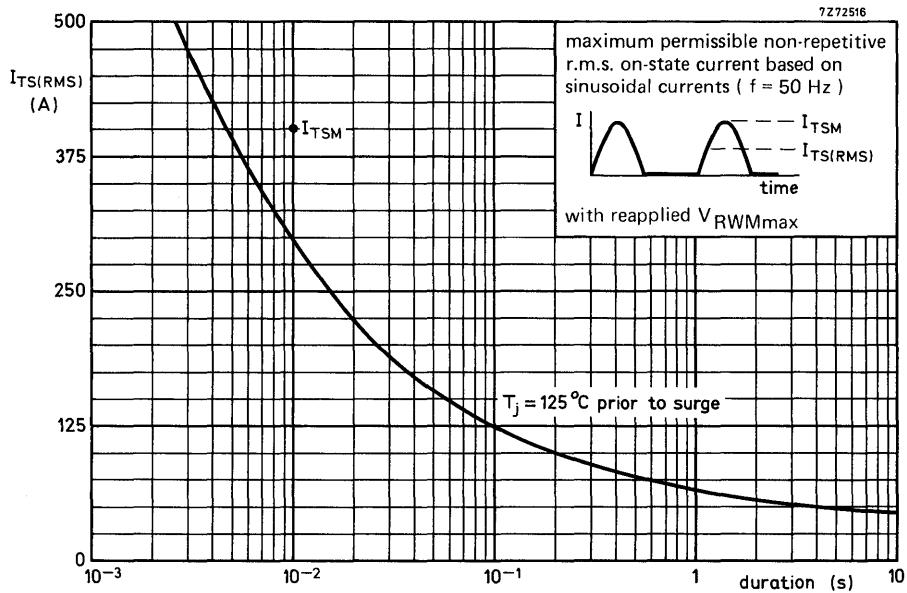

Fig. 3.
* To ensure thermal stability: $R_{th\ j-a} < 6,5$ °C/W (d.c. blocking) or < 13 °C/W (a.c.). For smaller heatsinks $T_{j\ max}$ should be derated. For a.c. see Fig. 3.